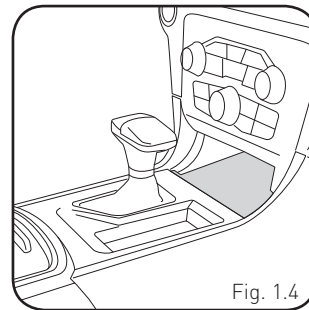

Fig. 1.4
5. Remove the rubber pad from the center console pocket. (Fig. 1.4)